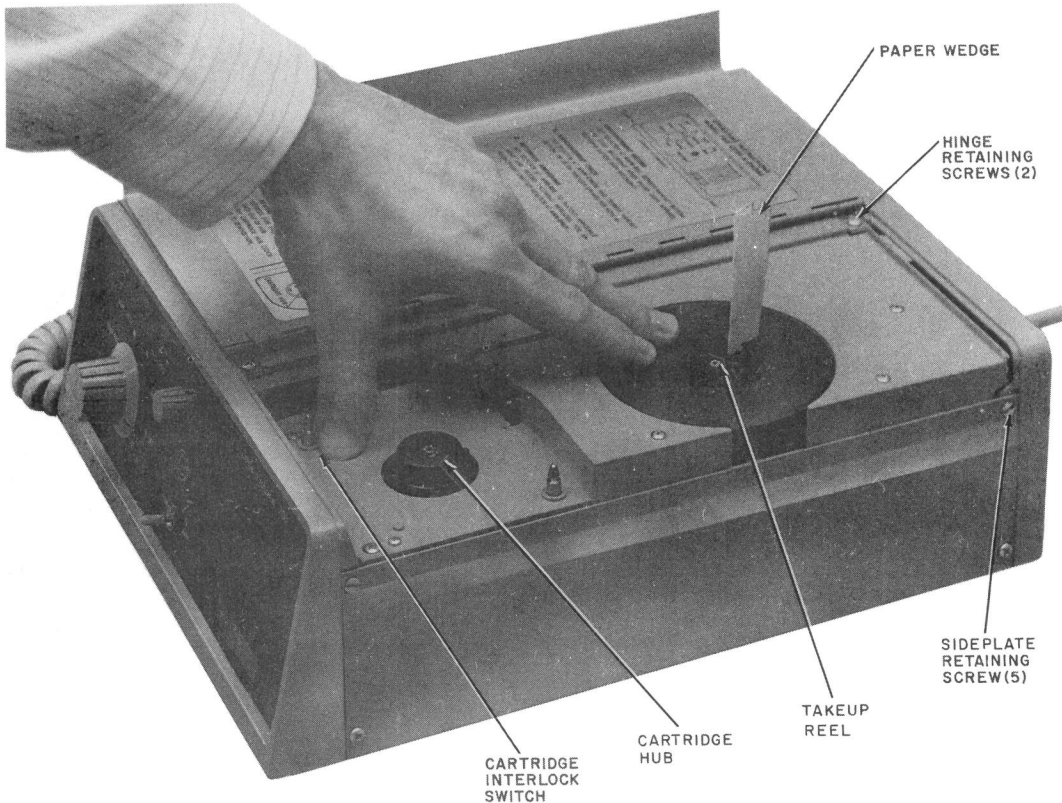
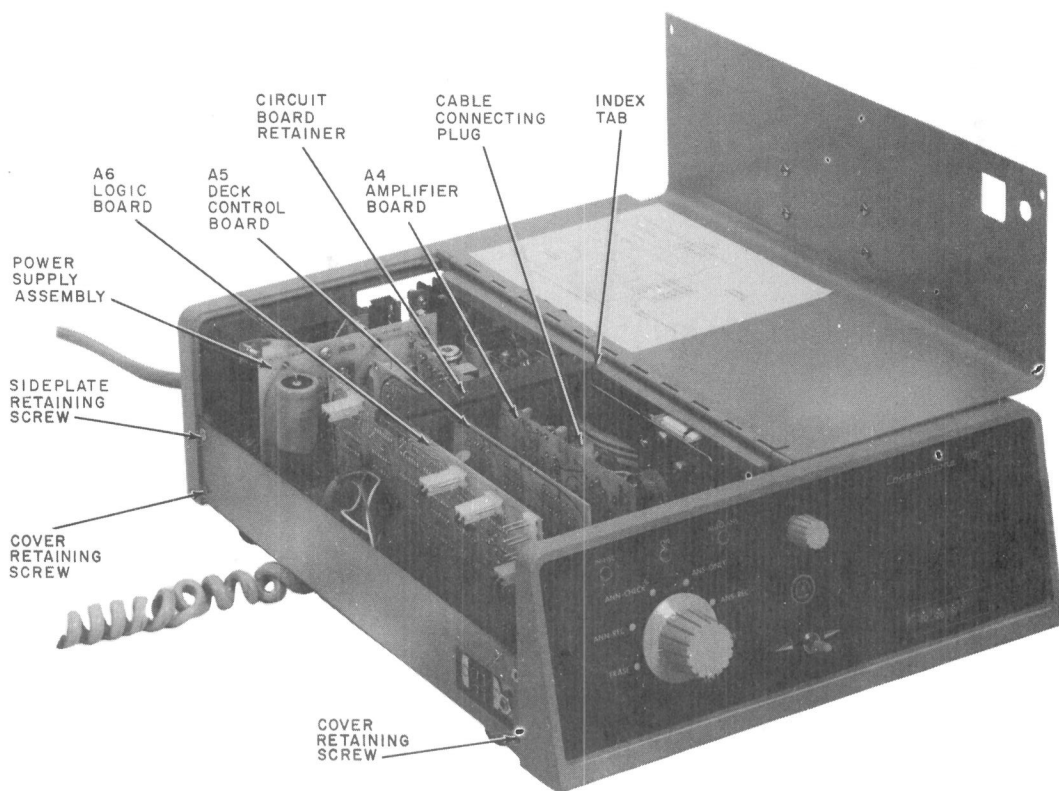

Fig. 2—Resetting "0" Registration on Message Indicator Dial
Fig. 3—Top Cover Removed, Internal View of Components
- (3) Verify the message tape is not at the end limit by making certain that the message indicator dial is reading less than 80.
- (4) Check phone connection at set terminal board for type of service.
- (5) Remove cover retaining screws from left side.
- (6) Lift left side cover and remove circuit board retainer.
- (7) Remove power cord from ac outlet.
- (8) Check options for proper selection.
- (9) Check that A4, A5, and A6 circuit boards are properly installed.
- (10) Check that cable connecting plugs for power supply and tape deck (Fig. 6) on the interconnect board and the cable connecting plug on the A4 board (Fig. 3) are firmly in place.
- (11) Replace circuit board retainer, left side cover and reinsert ac power cord.
- (1) Manual method (Fig. 2).
- (2) Rapid rewind method (Fig. 2).
4.01 Plug-in Circuit Boards (A4, A5, and A6; Fig. 3).
- (1) Remove top cover (Fig. 3).
- (d) Remove two hinge retaining screws (Fig. 2).
- (2) Remove tape deck.
- (a) Remove cable connecting plug for A4 circuit board (Fig. 3).
- (g) Install cable connecting plug for A4 (Fig. 3).
(6) Install cover.
- (d) Open left side of cover and install circuit board retainer (Fig. 3).